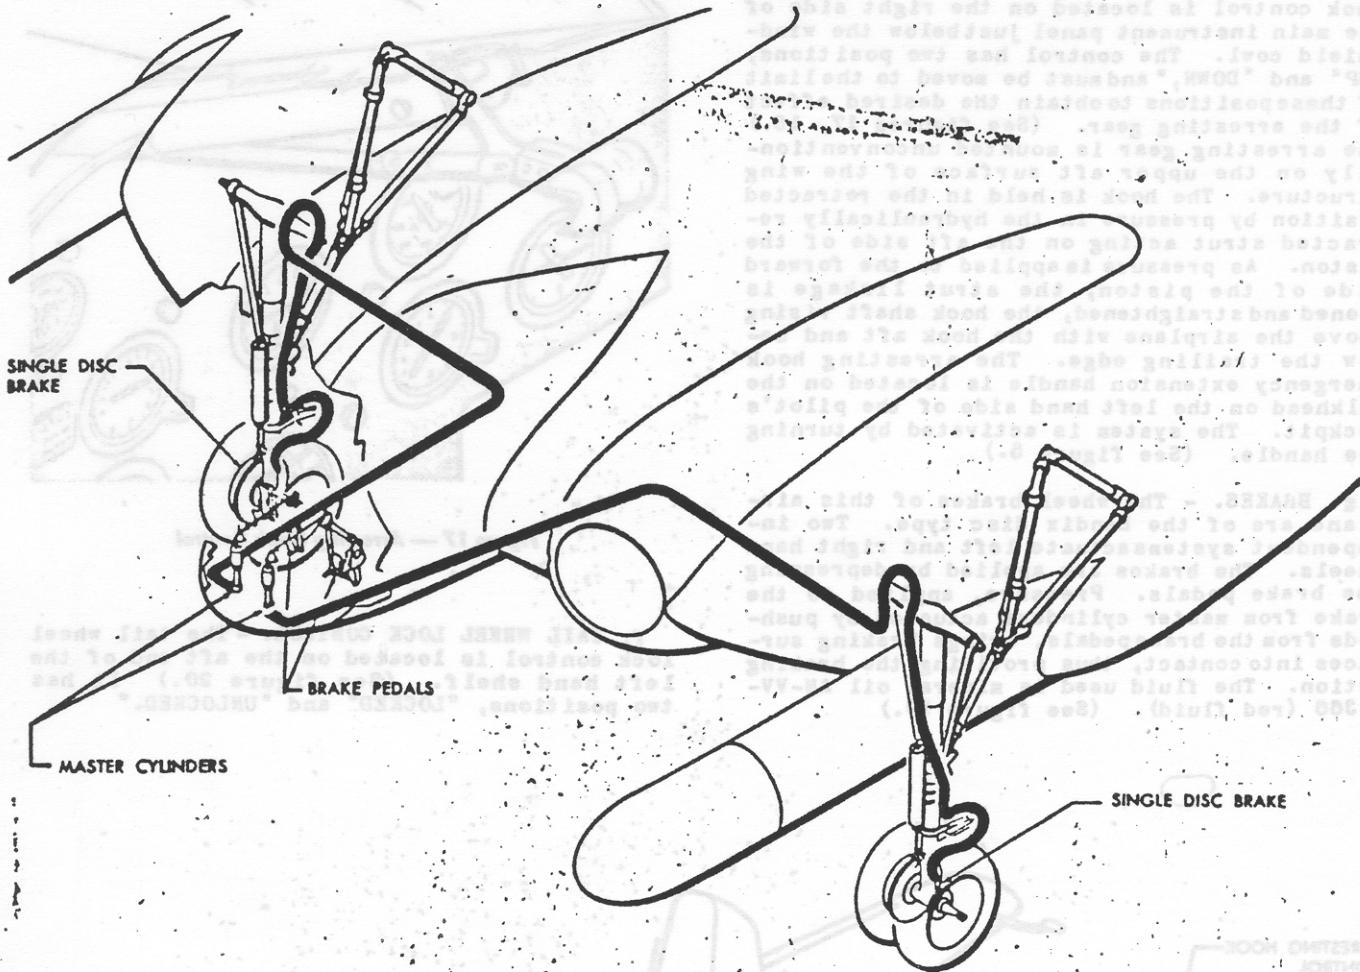

Figure 19 — Wheel Brake Diagram
e. **BRAKES.** - The wheel brakes of this airplane are of the Bendix disc type. Two independent systems actuate left and right hand wheels. The brakes are applied by depressing the brake pedals. Pressure, applied to the brake from master cylinders actuated by pushrods from the brake pedals, brings braking surfaces into contact, thus providing the braking action. The fluid used is mineral oil AN-VV-0-388 (red fluid). (See figure 19.)